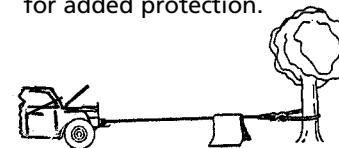

Figure 5
10. It is a good idea to lay a heavy blanket or jacket over the wire rope near the hook end when pulling heavy loads (Figure 5). If a wire rope failure should occur, the cloth will act as a damper and help prevent the rope from whipping. Raise hood of vehicle for added protection.